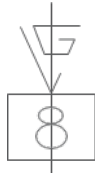

Figure 2
- Medium torque: no dots (figure 2)